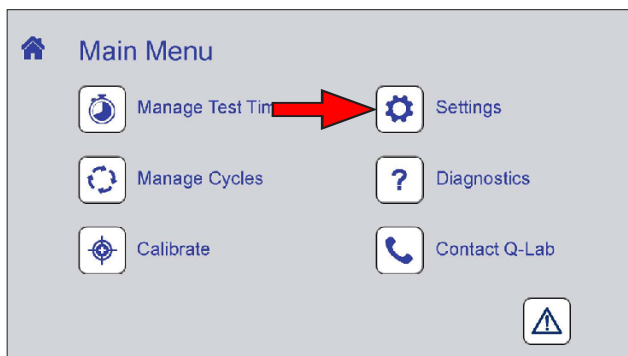

Figure 11.7a: Touch the Settings icon on the Main Menu screen to display settings controls.
- On the Main Menu screen touch the Settings icon (Figure 11.7a) to display the Settings screen.